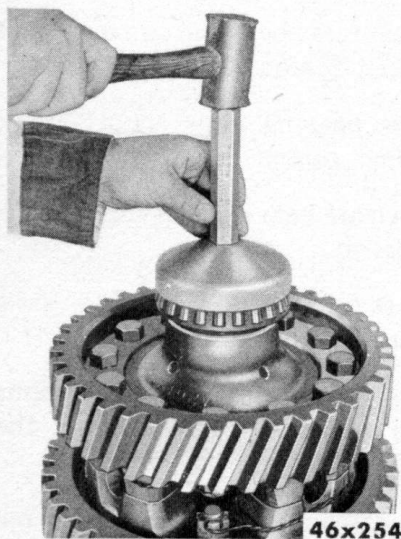

Fig. 87—Installing Differential Case Side Bearings
- (2) Lubricate differential case inner walls and all component parts with axle lubricant.
- (3) Install thrust washer and side gear in one of the case halves. Place spider with pinion and thrust washers in position. Install component side gear and thrust washer.
- (4) Align mating marks, position component case half and draw assembly together with four long bolts or cap screws, equally spaced.
- (5) Check assembly for free rotation of differential gears and correct if necessary.
- (6) Install remaining bolts or cap screws and tighten to the correct torque.
- (7) Install lock wire.
- (8) Press differential bearings squarely and firmly on differential case halves (Fig. 87).